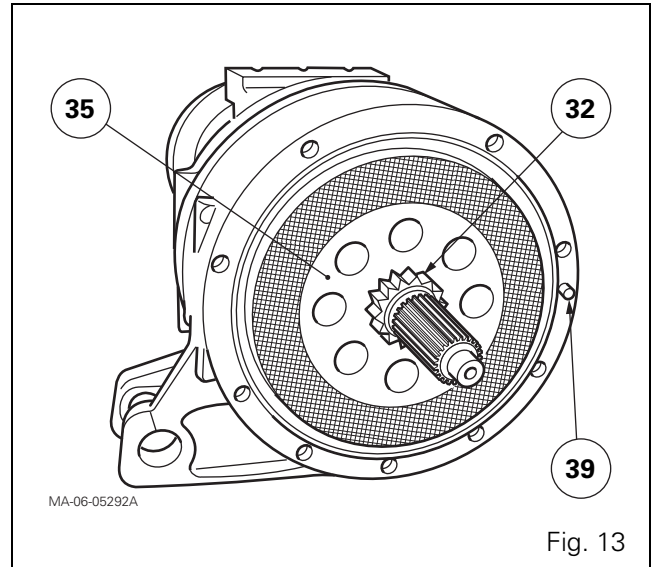

Fig. 13
27. Check (Fig. 13) that the dowel (39) is present.